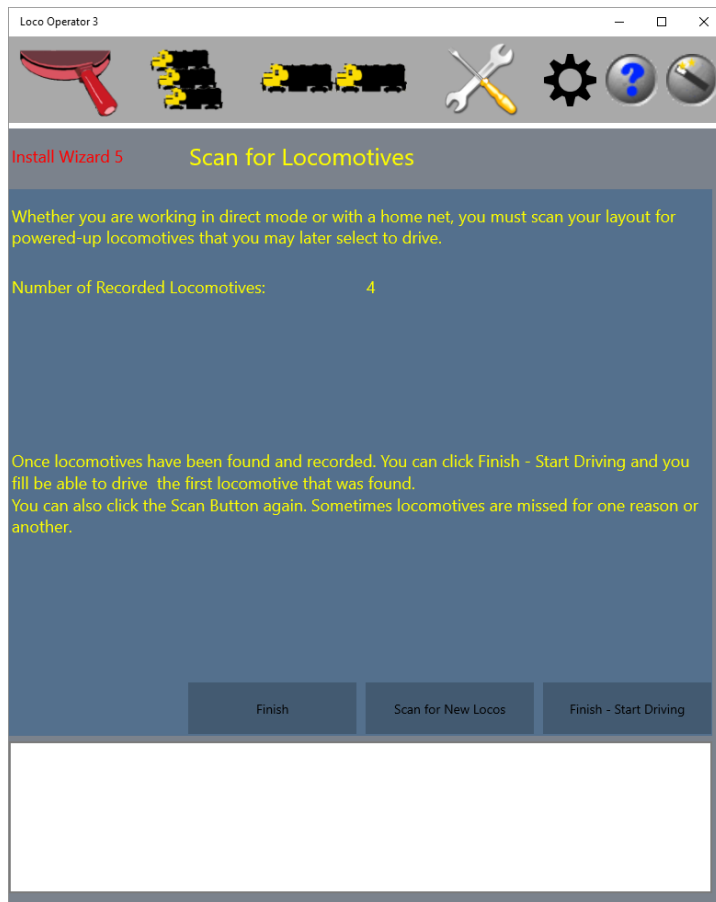

Figure 17 Completed Locomotive Scan - 4 found - the default for the WFD-25
- (9) Figure 17 shows the completed locomotive scan. Four locomotives should have been found. Remember, these are *locomotive channels* at which a DCC loco with matching DCC Address is expected to be on the track. Obviously if there is no loco with that address, you cannot drive it (consult the procedure described in the “Assigning DCC Addresses to the Locomotive Roster Channels” section to make sure your DCC locomotive addresses and the channel DCC addresses match. Click the “Finish-Start Driving” button and you can perform the same tests as you did in Direct Mode.